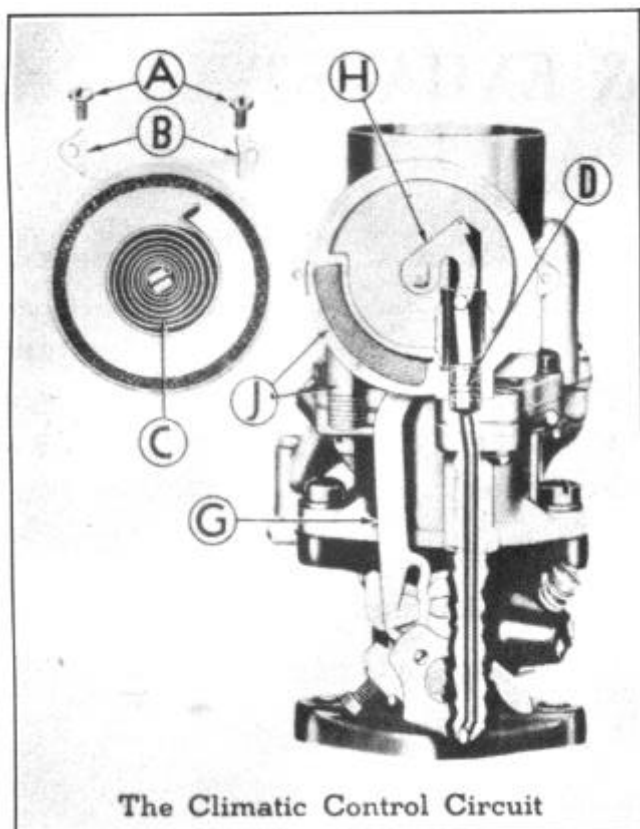

FIGURE 1
All model WA-1 Carburetors are equipped with Carter Climatic Control, Figure 1, which serves as an automatic choke. The Climatic Control closes the choke valve when the engine is cold. The Climatic Control is connected to the exhaust manifold by a tube (J) which allows exhaust gases to enter through the opening into the control housing and warm the thermostatic spring (C) and decreases the spring tension. A vacuum piston (D) is connected to the choke valve and operates from the vacuum of the intake manifold. The pull of the piston against the thermostatic spring opens the choke valve (H) as the engine becomes warm.